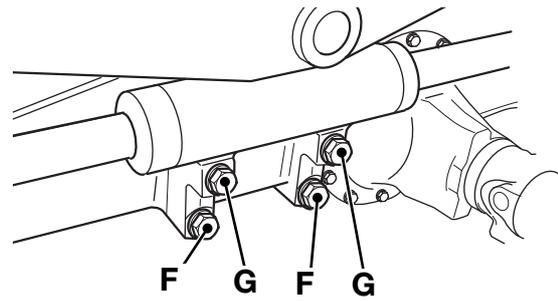

Fig 59. 2WS, 4WD Front Axle
**Important:** ⇒ Fig 59. (□ H-57). On 2WS 4WD axles, the washers under the heads of the M20 x 110 mm long bolts **G** are special washers and must be renewed with the correct grade JCB hardened washer.